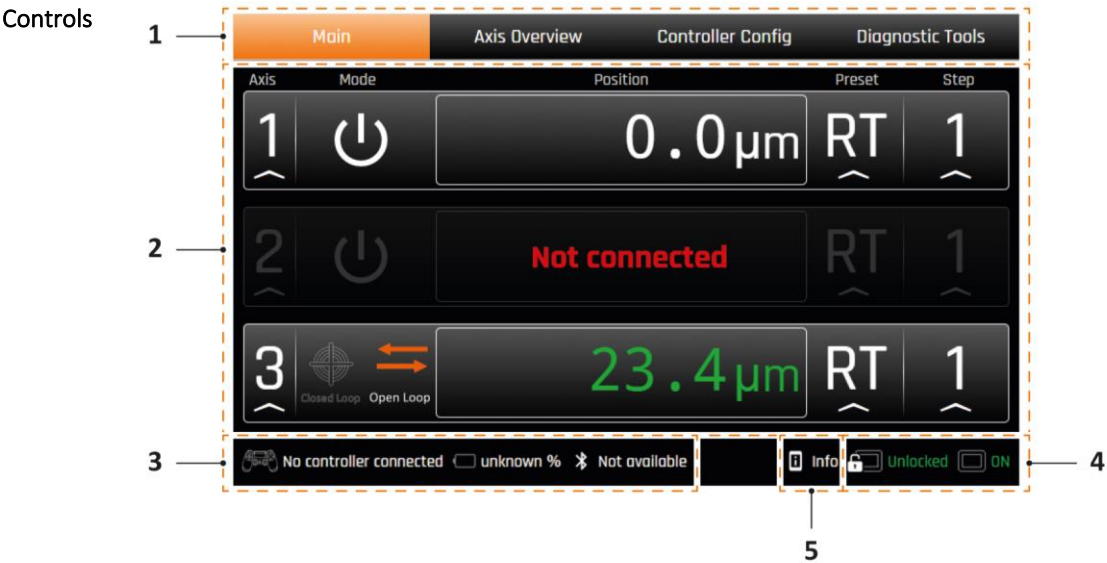

Figure 28 Touch panel screen sections
**Access** The "Version" overlay can be accessed from every page by tapping [Info] (Figure 28/5).